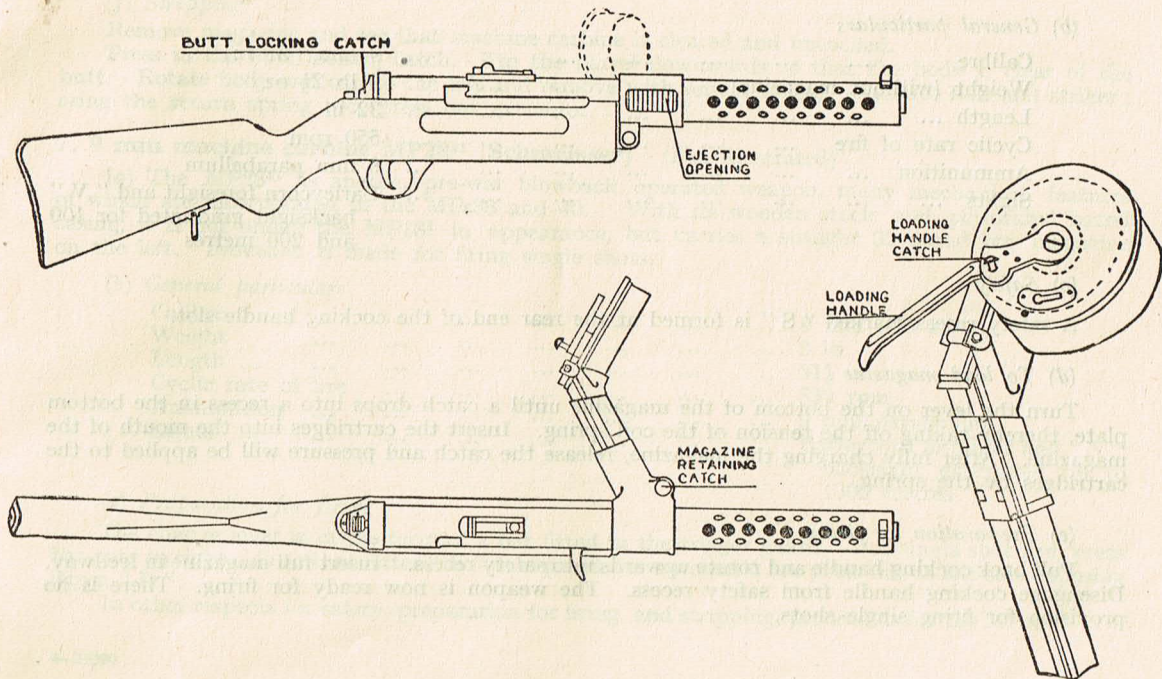

FIG 9—9 mm MACHINE CARBINE MP 18¹ (BERGMANN)
6. 9 mm machine carbine MP18¹ (Bergmann) (Fig 9)